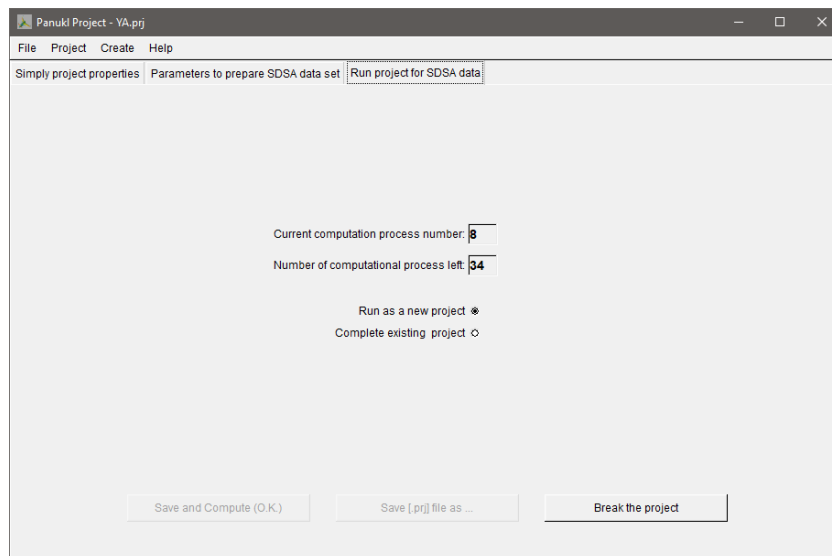

Fig. 21 – Dialog window of the PanProject program in project run mode for SDSA
After setting all the parameters, go to the "Run project for SDSA data" tab (Fig. 21) and begin calculations with the "Save and compute (OK)" button. The project parameters are saved to the [.prj] file and the calculation procedure begins. The calculation progress is shown on two counter widgets. The first one shows the currently running last process (sequence of Panukl and Press programs), the second shows the number of sequences that remains to be performed. The "Break the project" button is used to stop calculations. The calculations can then be resumed at any time, even after the PanProject program is called again.